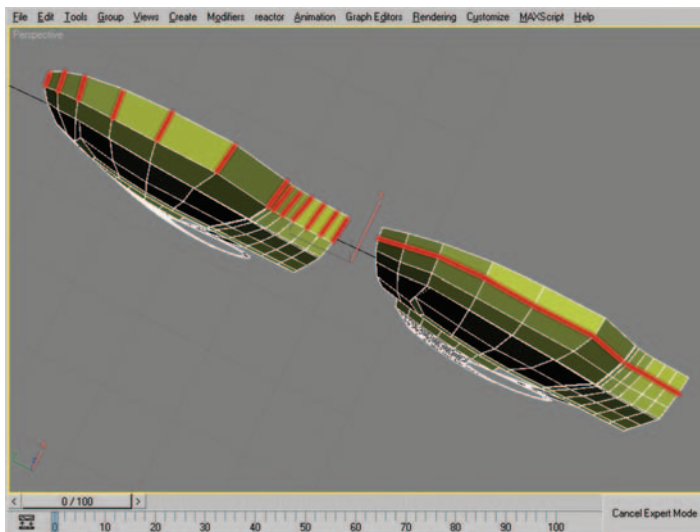

Figure 8.47 Edge selection and resulting new line of edges after using Connect.
48. In the top viewport, select the edges seen in Figure 8.47 (left) and use Connect to create the line of new edges seen in Figure 8.47 (right). *Note: I also moved and spaced the edges a little using the Move tool both with and without Edge Constraints active. Edge constraints are covered in Chapter 6.*